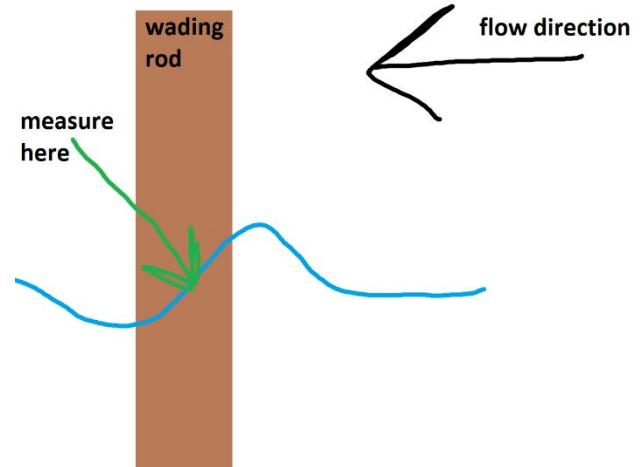

Figure 23
- To measure depth, place the wading rod against the bottom of the river UPSTREAM of your body and hold it as close to vertical as you can. If the water is moving fast enough to make it pile up on the upstream side of the wading rod, take the measurement on the side of the rod, where the water is following a somewhat diagonal path (Fig. 23):